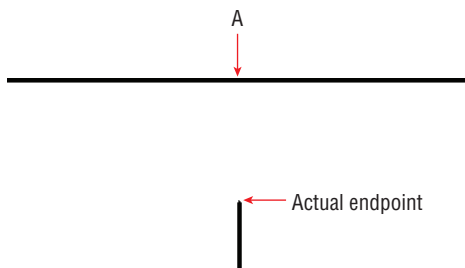

FIGURE 3.11 Zooming in reveals that the lines do not meet.
3. Press **Z** and then Enter. Click two points to define a tightly cropped zoom window around point A. Zoom in again if necessary until you can see that the endpoint of the line you just drew is not on the horizontal line (see Figure 3.11). No matter how carefully you clicked point A in the previous step, the line you drew will not be on the edge (it will either fall short of it or overshoot it).